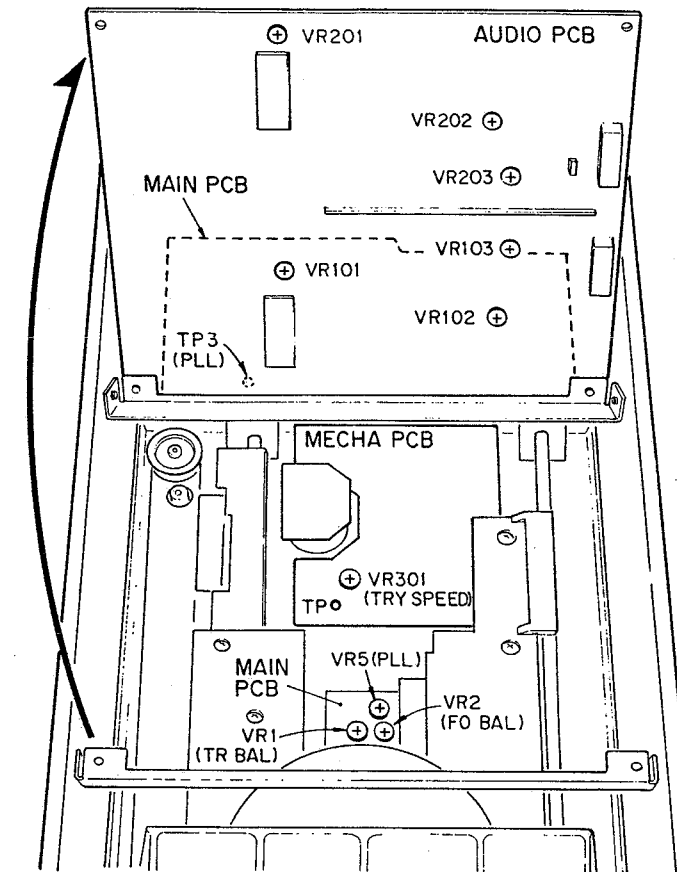

Fig. 4-8
- * Adjustment Points: MAIN PCB (Fig. 4-8)
- * 調整箇所 : MAIN PCB (図4-8 参照)